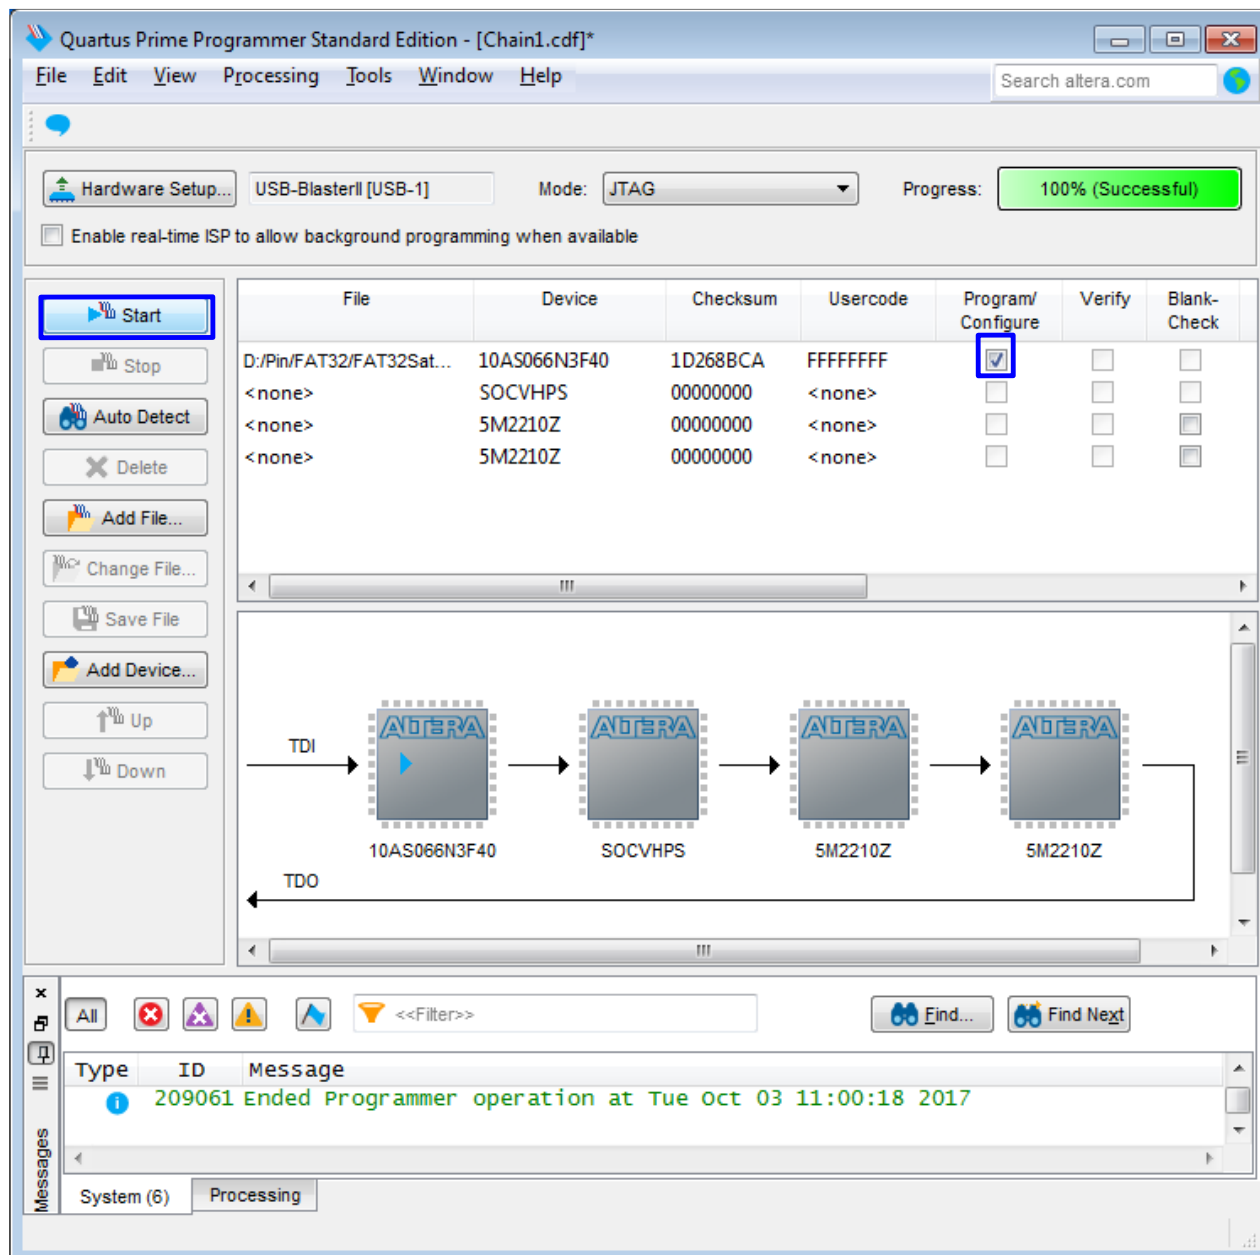

Figure 2-5 Programmed by QuartusII Programmer
7) Use QuartusII Programmer to program “FAT32SataTest.sof” file, as shown in Figure 2-5.